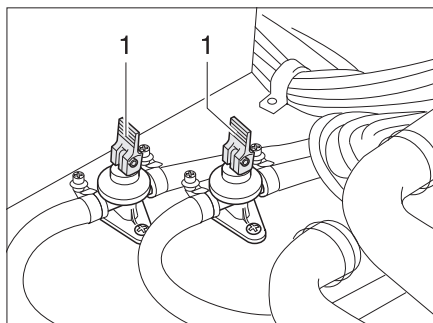

Fig. 120 Drain cocks
- Close the drain cocks. Position the rocking levers (Fig. 120,1) horizontally.
- Open the drain cocks (Fig. 120). Position the rocking levers (Fig. 120,1) vertically. The boiler is drained to the outside using the drain cocks.